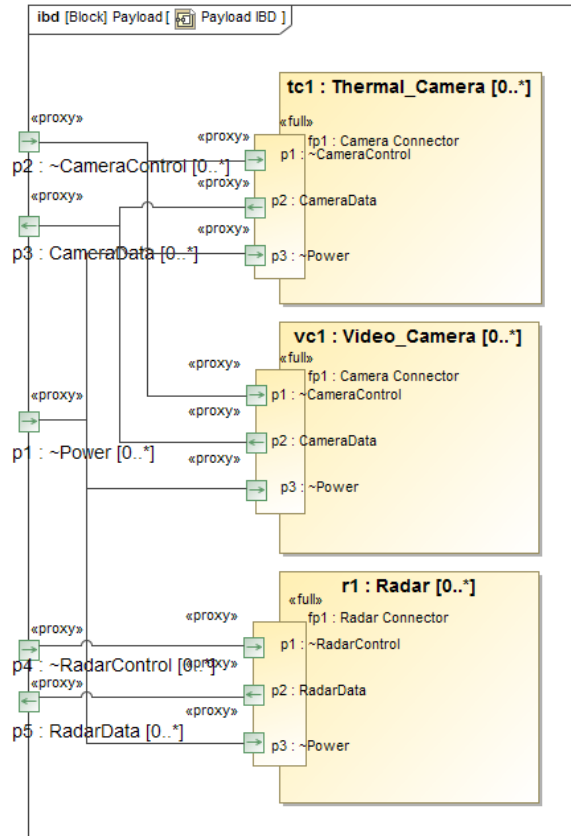

Figure 7 Payload IBD, fourth stage
- Draw connectors between the proxy ports on the diagram frame and on the parts as shown in Figure 7.